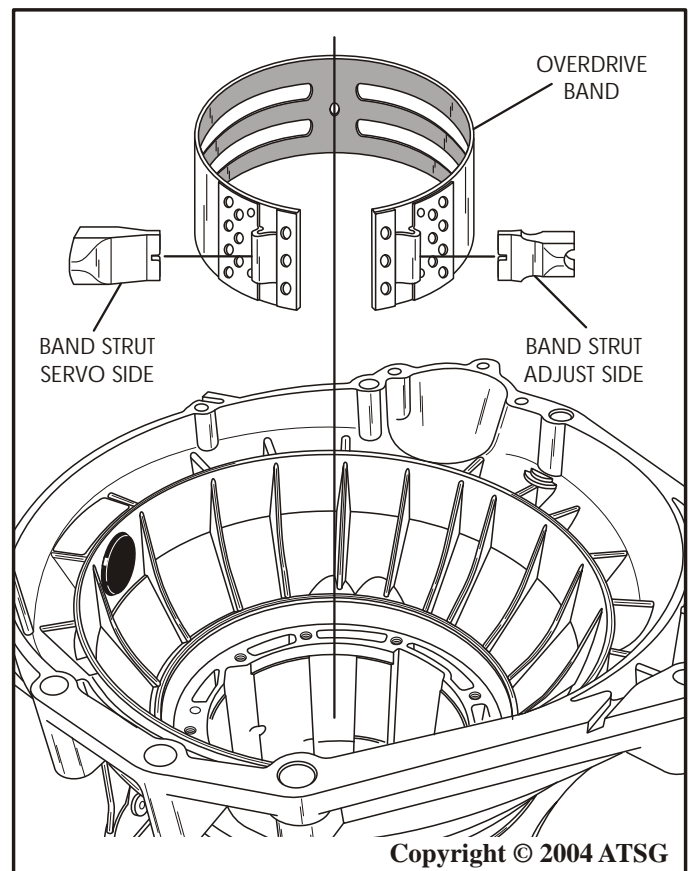

Figure 38
32. Remove the overdrive band assembly and both band struts, as shown in Figure 38.
Note: Notice the difference in the band struts and which side they are located, as shown in Figure 38.